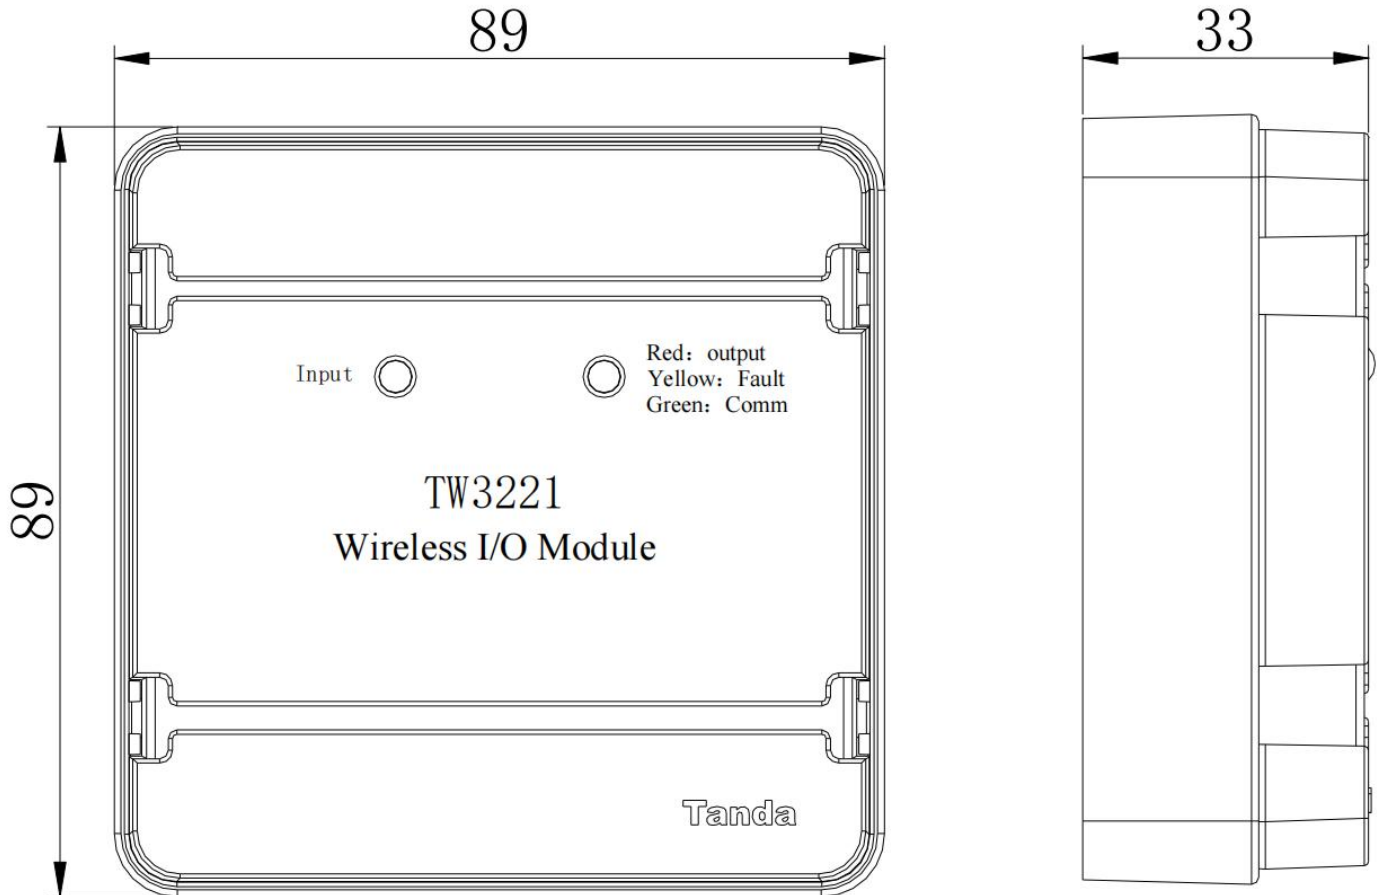

Figure 1 Schematic diagram of wireless input/output module
1. Schematic diagram of wireless I / O module overall dimensions, as shown in Figure 1 (unit: mm)